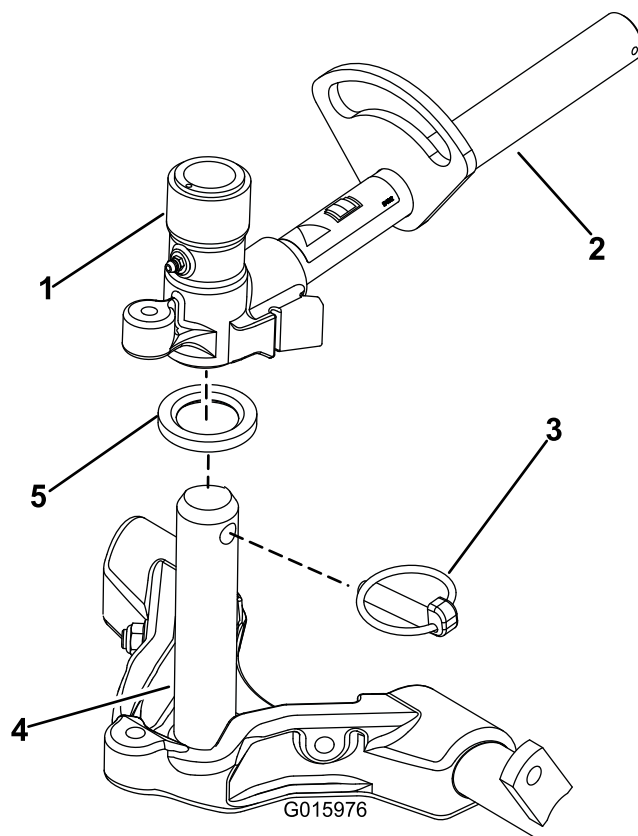

Figure 11
8. Coat the carrier frame shaft with clean grease (Figure 11).
9. For the front cutting units, slide a cutting unit under the lift arm while inserting the carrier frame shaft up into the lift arm pivot yoke (Figure 11). Make sure the thrust washer is in position on the carrier frame shaft.
10. Secure the carrier frame shaft to the lift arm yoke with the Klik pin (Figure 11).
- B. Insert the lift arm yoke onto the carrier frame shaft (Figure 11).